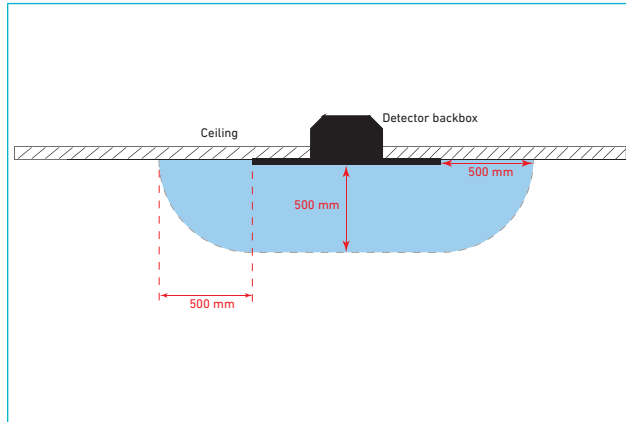

Figure 2: Overall minimum clearances
- Areas with obstructions either static or transient within the required minimum clearance (see Figure 2).
There must also be a minimum clearance of 500 mm all around the detector. (see Figure 2).
Soteria Dimension detectors should be sited in accordance with BS 5839-1 (as amended) or applicable local regulations. In addition a minimum distance of 500 mm must be allowed between the outside edge of the detector faceplate and any light fittings. Also a minimum 500 mm clearance below the detector faceplate from any static or transient object must also be maintained (see Figure 2).